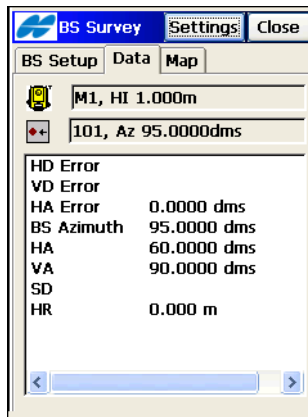

Figure 8-35. Check Backsight
4. To check the quality of the chosen backsight point, tap the **Check BS** button. The screen displays the residuals of the current backsight point (Figure 8-35). Tap **Close**.